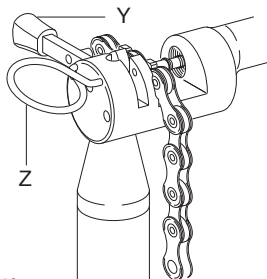

Fig.10
- Clamp the link with the special clamping device (Z - Fig. 10).
- Check that the tongue of tool **UT-CN400** is in the external position (Y - Fig. 10).